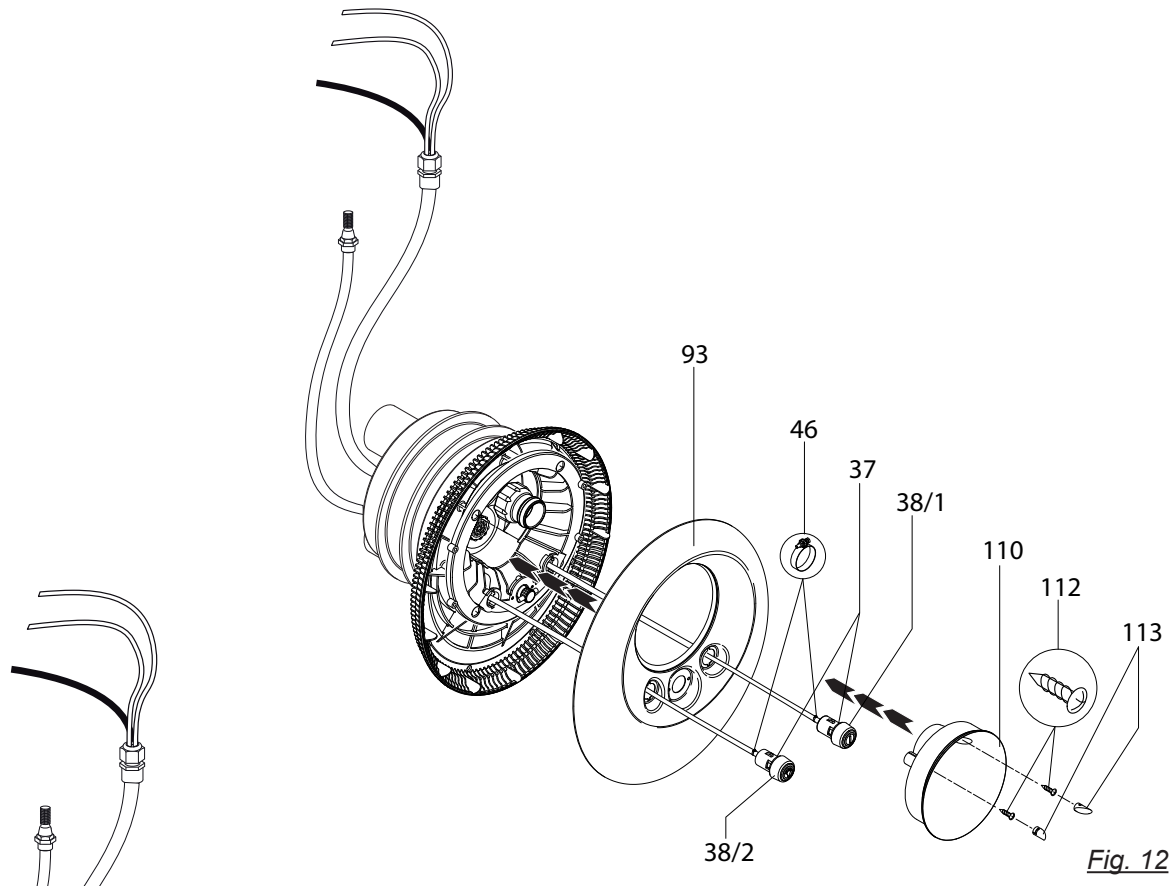

Fig. 12
- 8) Guide the pneumatic hoses through the openings in the stainless steel trim (93) (light ON-OFF left; pump ON-OFF right) and fasten to the corresponding buttons using the hose clamps (46). (Fig. 12)